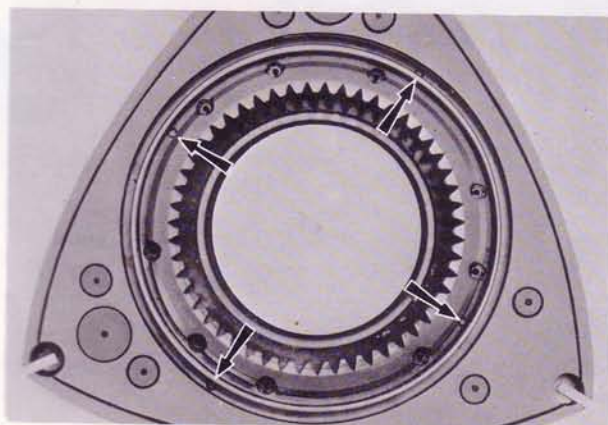

Fig. 1-58 Stopper hole of oil seal spring
2. Install the oil seal springs in their respective grooves on the rotor with each round edge of the spring fitted in the stopper hole shown in Fig. 1-58.